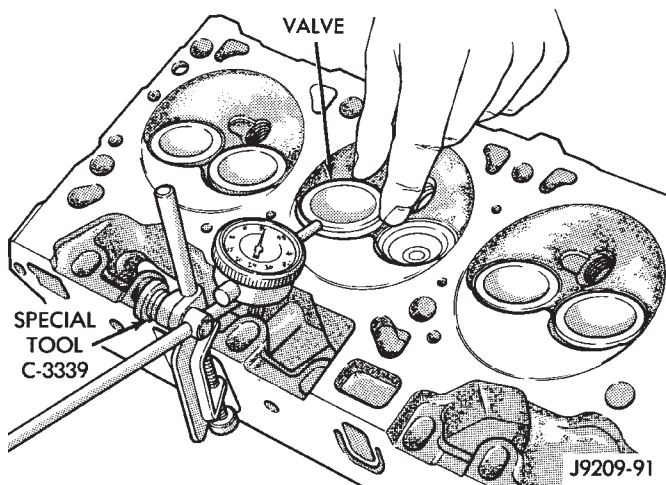

Fig. 52 Measuring Valve Guide Wear
- (2) Attach Dial Indicator Tool C-3339 to cylinder head and set it at right angle of valve stem being measured (Fig. 52).
- (3) Move valve to and from the indicator. The total dial indicator reading should not exceed 0.432 mm (0.017 inch). Ream the guides for valves with over-